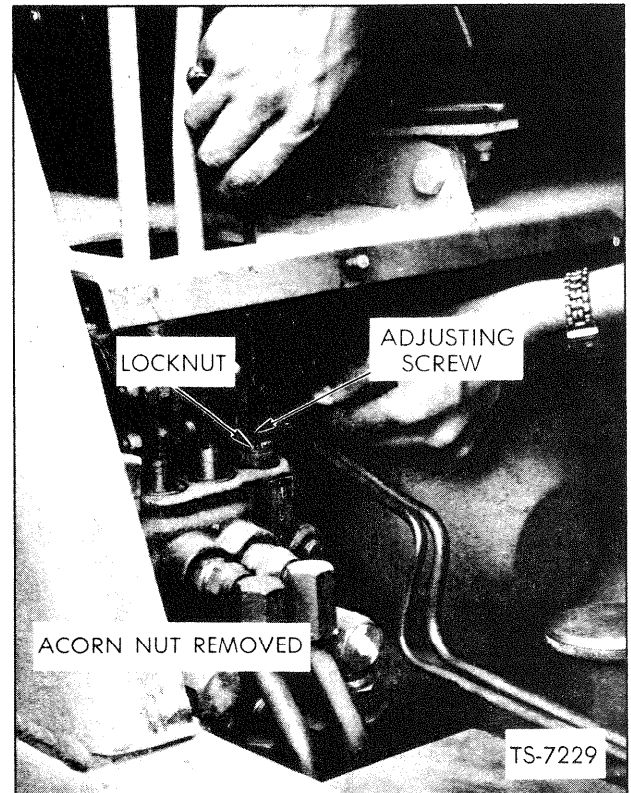

Fig. 27 Adjust Pressure—Main Relief Valve
4. Put the machine into a full left hand turn and hold the lever in the full turn position. The gauge should register 1,600 psi. If not, adjust the main relief by removing the acorn nut, loosening the jam nut and adjusting the set screw located on the top of the main control valve assembly, until 1,600 psi. registers on the gauge. See Fig. 27.